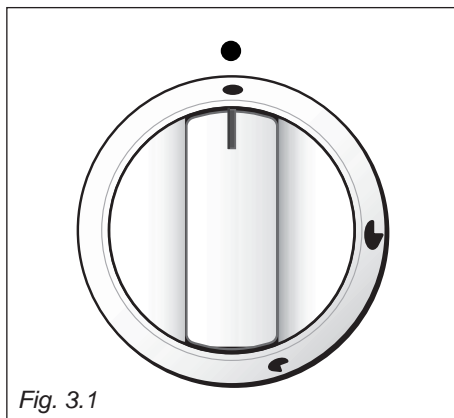
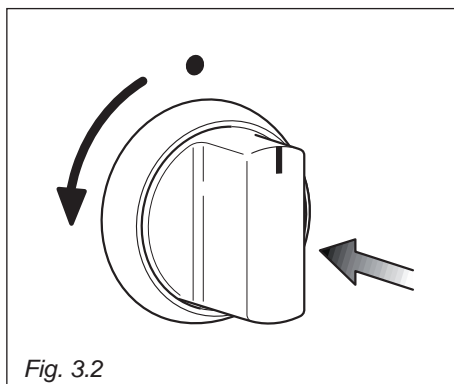

Fig. 3.1
Fig. 3.2
Each burner is controlled by a gas tap (fig. 3.1) assuring the opening and the closing of the gas supply.
1. Press in the corresponding knob and turn counter-clockwise (fig. 3.2) to the full flame position marked by the symbol (fig. 3.1) and hold the knob in until the flame has been lit. Press the ignition button marked by the symbol ★ (fig. 3.3). The sparks produced by the electrodes situated next to the burner will light the selected burner. In the case of a mains failure light the burner with a match or lighted taper.